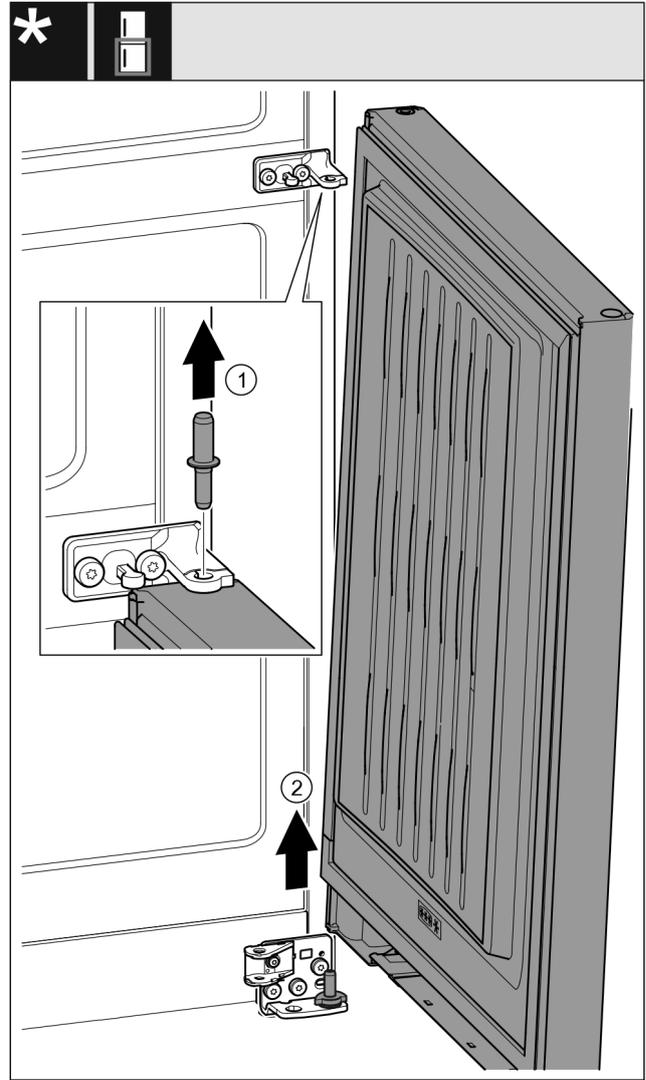

Fig. 32 With closing damper*
- ▶ Pull out the bolt Fig. 32 (1) upwards.*
- ▶ Swing out the door Fig. 32 (2), pull it upwards and set it aside.*